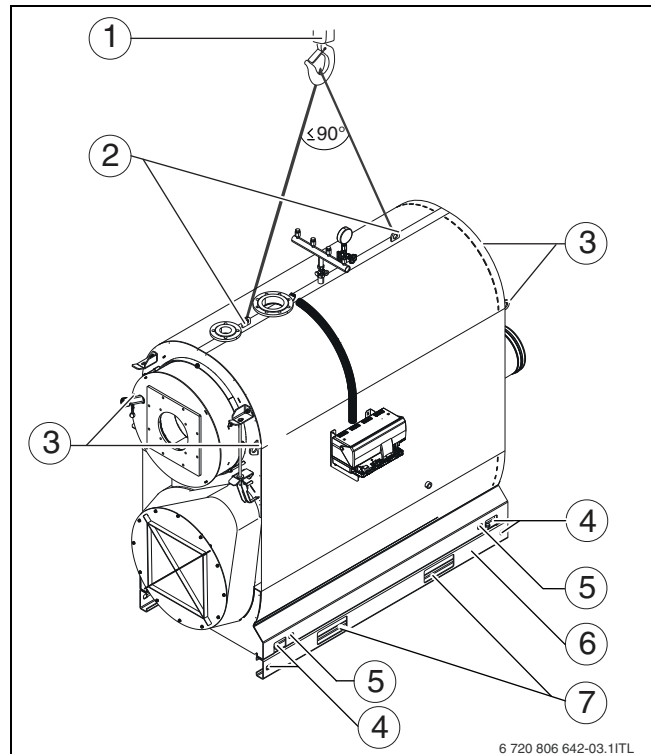

Fig. 8 Lifting the boiler with a crane
- ▶ Insert the hooks of the lifting tackle into the eyes in both gusset plates (→ fig. 8, [2]) of the boiler body.
- ▶ Attach the crane hook to the lifting tackle (→ fig. 8, [1]).
- Lift the complete boiler with a pallet truck (according to chapter 4.1.4, page 17) or from one side with a trolley jack (→ fig. 8, [5], page 16).